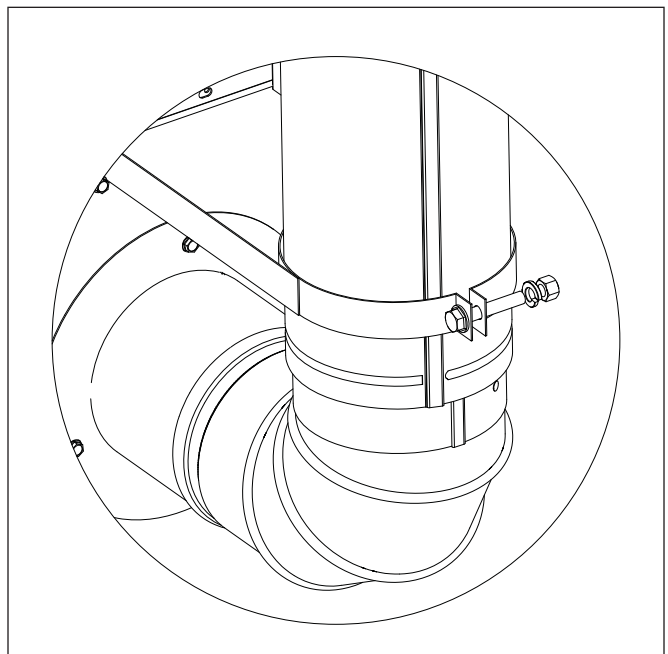

Figure 8. Support Bracket Tightening
11. Tighten the flue support bracket around the flue assembly with the #18 bolt, nut and lock washer (see Figure 8). Make sure that the bracket is adequately tight around the flue so there no movement. The bracket and assembly will stiffen as the bolt is tightened.